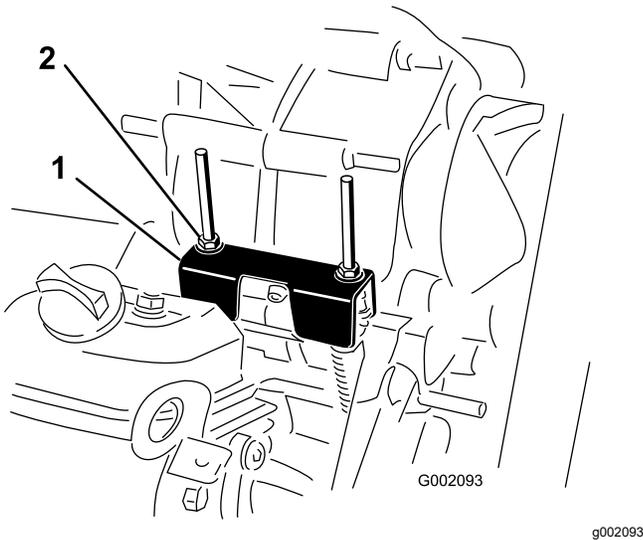

Figure 62
When performing routine maintenance and/or engine diagnostics, the transaxle must be shifted into NEUTRAL (Figure 62). The machine has a NEUTRAL position on the shift lever, which controls the neutral in the transaxle. Perform the following steps to ensure that the neutral shift lever operates the transaxle neutral correctly:
2. Ensure that the neutral bracket is in the NEUTRAL position (level to the cable mounting bracket located below the shift bracket) by turning the driven clutch (Figure 62).
3. Rotate 1 of the locknuts (Figure 62) to achieve a 0.762 to 1.524 mm (0.030 to 0.060 inch) gap between the bottom of the nut/washer and the neutral bracket.